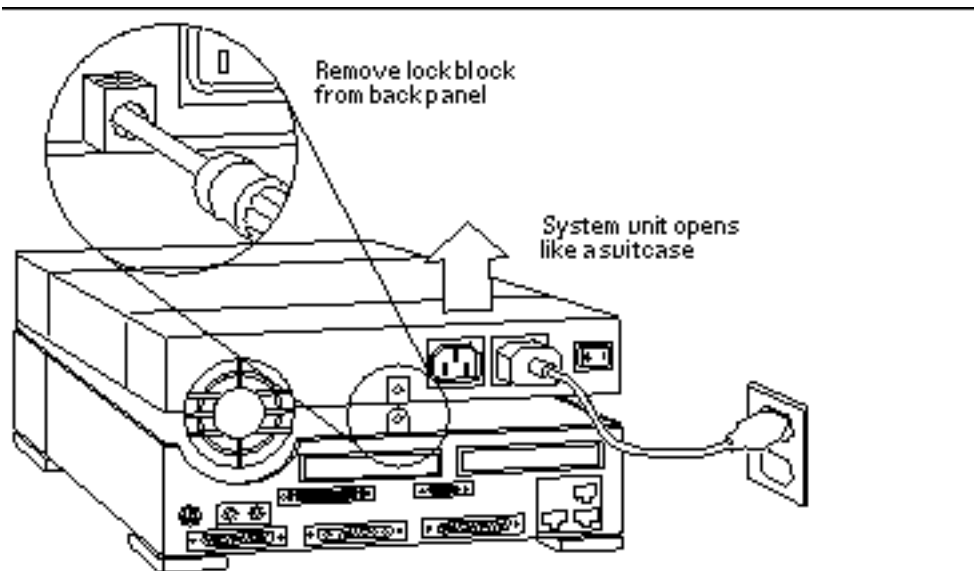

Figure 7-1 Opening the System Unit
3. Remove the screw that secures the lock block to the back panel (see Figure 7-1).
4. Grasp the unit top at its rear corners and carefully open the system unit like a suitcase (see Figure 7-1).